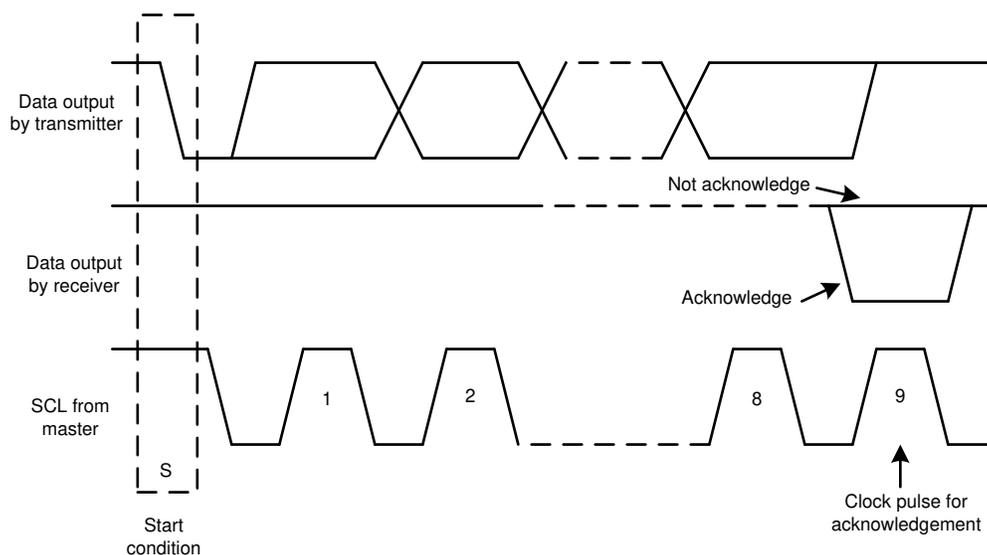
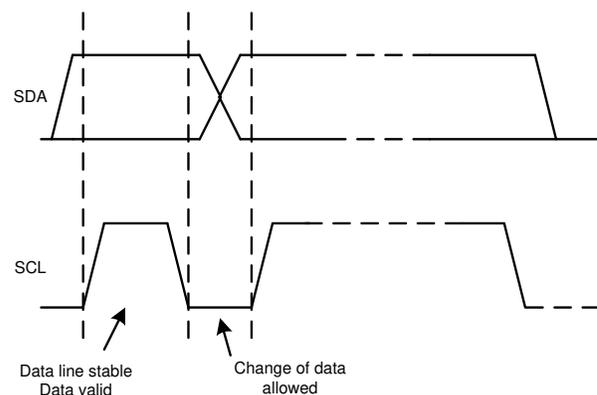

図 7-2. Acknowledge and Not Acknowledge on the I²C Bus
Figure 7-4. Bit Transfer on the I²C Bus
Other than specific timing signals, the I²C interface works with serial bytes. At the end of each byte, a ninth clock cycle generates and detects an acknowledge signal. Acknowledge is when the SDA line is pulled low during the high period of the ninth clock cycle. A not-acknowledge is when the SDA line is left high during the high period of the ninth clock cycle as shown in 図 7-2.
2. The master then generates the SCL pulses, and transmits the 7-bit address and the read/write direction bit (R/W) on the SDA line. During all transmissions, the master makes sure that data are valid. A valid data condition requires the SDA line to be stable during the entire high period of the clock pulse, as shown in Figure 7-4. All devices recognize the address sent by the master and compare the address to the respective internal fixed address. Only the slave device with a matching address generates an acknowledge by pulling the SDA line low during the entire high period of the ninth SCL cycle, as shown in Figure 7-2. When the master detects this acknowledge, the communication link with a slave has been established.
4. To signal the end of the data transfer, the master generates a stop condition by pulling the SDA line from low-to-high while the SCL line is high (see Figure 7-4). This action releases the bus and stops the communication link with the addressed slave. All I²C-compatible devices recognize the stop condition. Upon receipt of a stop condition, the bus is released, and all slave devices then wait for a start condition followed by a matching address.